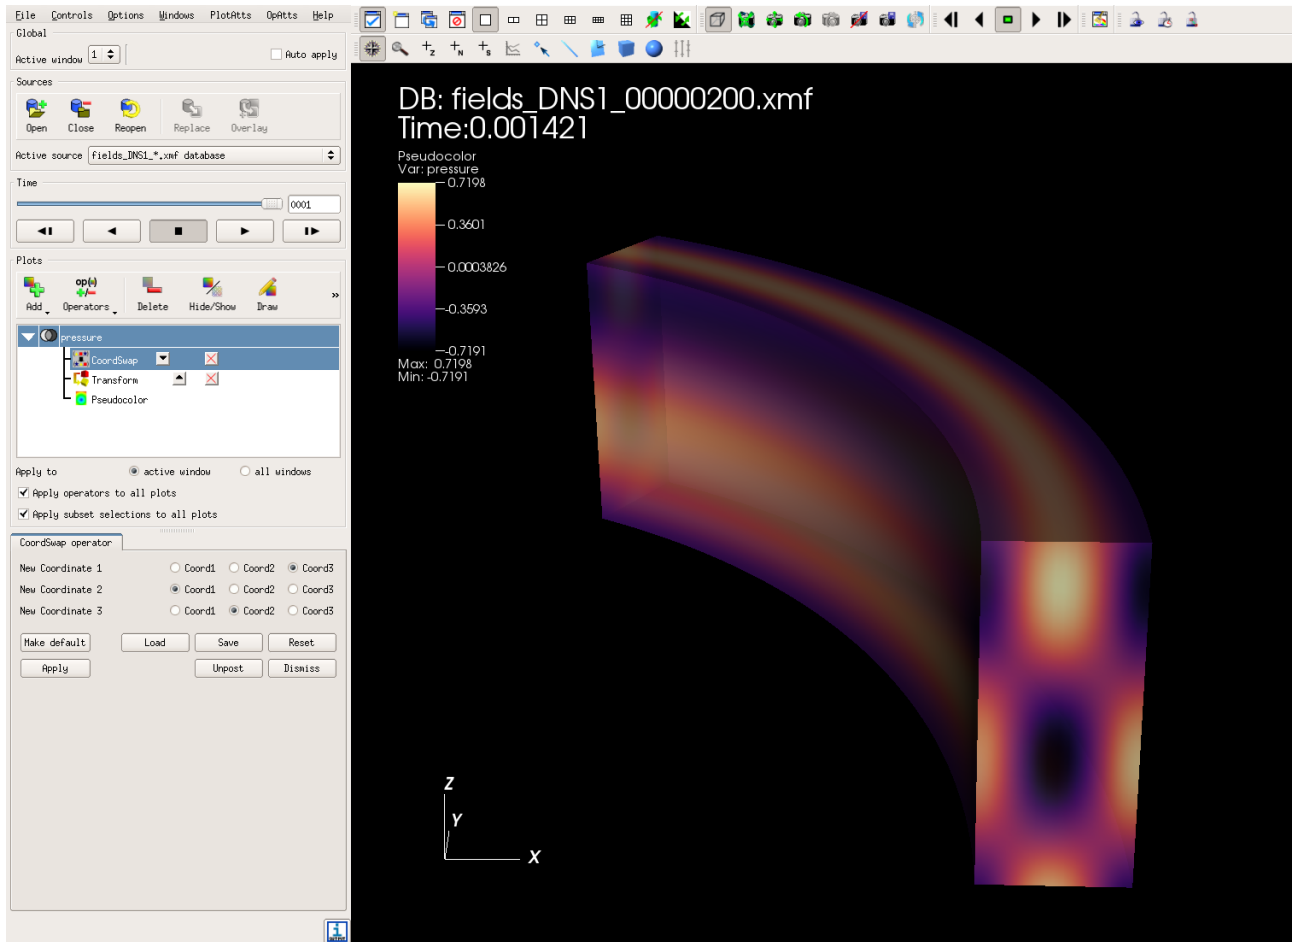

Figure 1. Screenshot of the VisIt GUI
- **Important step:** Add two operators one after another on the plot by clicking on the “Operators” next to the “Add” button. Select in the pulldown menu “CoordinateSwap” to change our file coordinates (θ, z, r) to (r, θ, z) and “Transform” to change our coordinate system from cylindrical to cartesian (cf. Fig. 1);